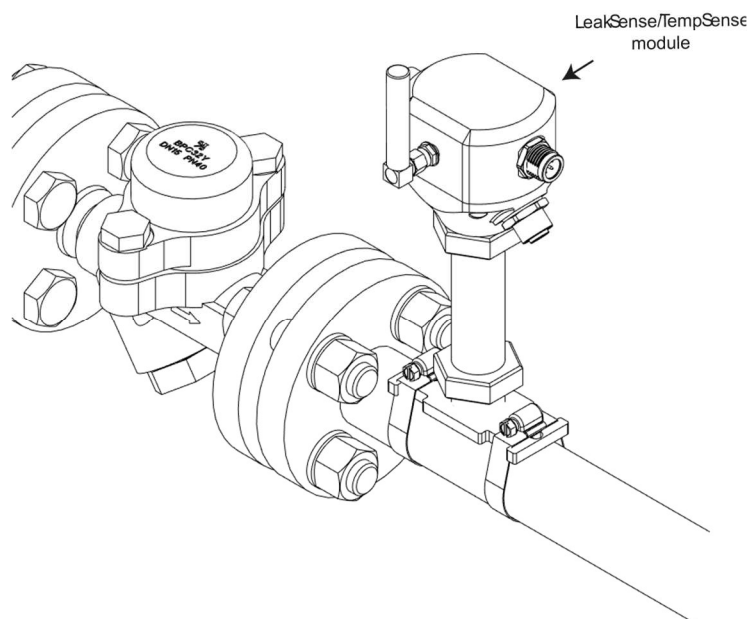

Figure 6.- LeakSense/TempSense module installation with standar method
5. Fix the module, with the metallic clamps placed on the standard mounting plate, by tightening the clamps. Ensure a firm and rigid union is achieved, as can be shown in Figure 6.